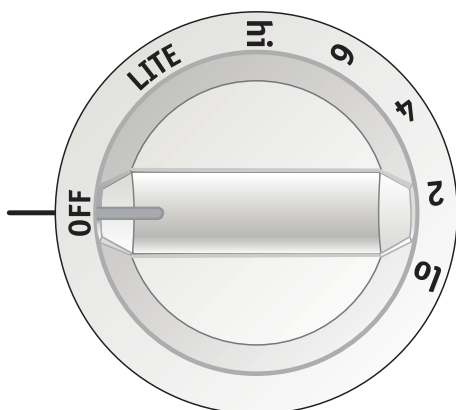

Figure 1
2. Push the surface control knob down and turn counterclockwise out of the OFF position (See Figure 1).